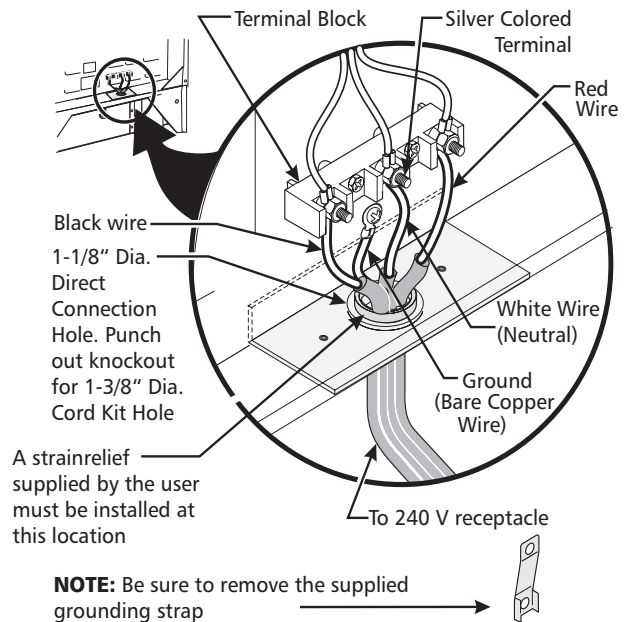

Figure 4
For mobile homes, new installations, recreational vehicles, or areas where local codes do not permit grounding through neutral, a 4 conductor power supply cord kit rated at 125/250 volts minimum, 40 amperes and marked for use with ranges should be used (see Figure 4).
- where the ground strap was removed (see Figure 4).
6. Replace the 3 nuts on the terminal block (see figure 4).
If the appliance is connected directly to the circuit breaker, fuse box or junction box, use flexible, armored or nonmetallic sheathed copper cable (with grounding wire). Supply a U.L. listed strain-relief at each end of the cable. At the appliance end, the cable goes through the Direct Connection Hole (see Figure 4) on the Cord Mounting Plate. Wire sizes (**copper wire only**) and connections must conform to the rating of the appliance.